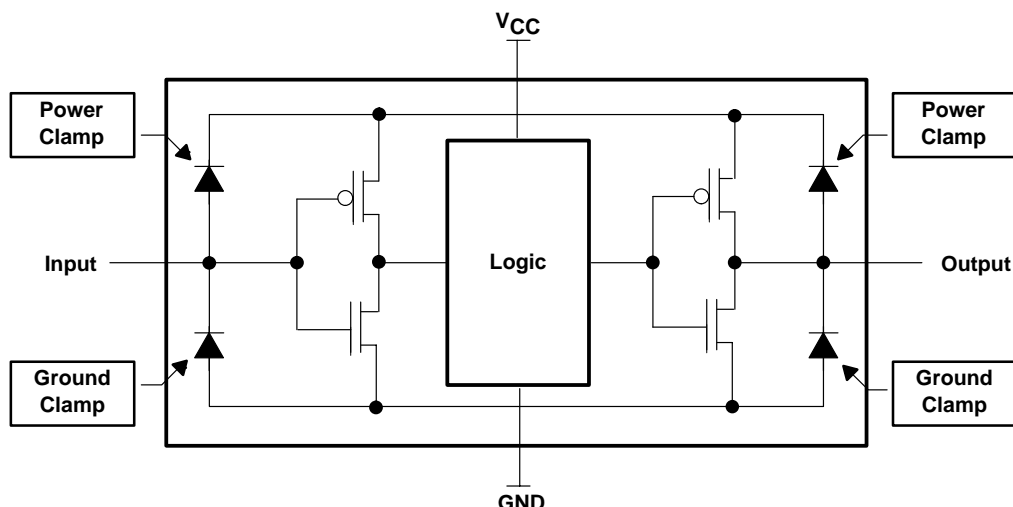

Figure 20. Representation of Typical Logic I/O Clamping Circuits
If there are clamp diodes between the device inputs and the V_{CC} supply (see Figure 20) for ESD protection or overshoot clamping, the positive absolute-maximum rating for the input voltage is specified as $V_{CC} + 0.5$ V. Keeping the applied input voltage less than 0.5 V above V_{CC} ensures that there will not be enough voltage across the clamp diode to forward-bias it and cause current to flow through it. The TI logic families with clamp diodes in the inputs are: AC, ACT, AHC, AHCT, ALB, ALS, ALVC, AS, F, (CD)FCT, HC, HCT, HSTL, LS, PCA, PCF, S, SSTL, and TTL.
If there are clamp diodes between the device outputs and the V_{CC} supply (see Figure 20) for ESD protection or parasitic current paths in the output p-channel pullup transistor, the positive absolute maximum rating for the output voltage is specified as $V_{CC} + 0.5$ V. This ensures that there will not be enough voltage applied between the output and V_{CC} to forward bias the clamp diode and cause current to flow. You may exceed the negative rating if you ensure that you are not putting too much current through the ground-clamp diode. The maximum current that you may put through the ground-clamp diode is specified in the I_{OK} absolute maximum rating.
If there are clamp diodes between the device inputs and the V_{CC} supply (see Figure 20), for ESD protection or overshoot clamping, there will be both a positive and negative absolute maximum rating for the input clamp current. If there is only a negative absolute maximum rating, that implies that there is only a ground-clamp diode at the input, not a power-clamp diode.
If there are clamp diodes between the device outputs and the V_{CC} supply (see Figure 20), for ESD protection or parasitic current paths in the output p-channel pullup transistor, there will be both a positive and a negative absolute-maximum rating for the output clamp current. If there is only a negative absolute-maximum rating, that implies that there is only a ground-clamp diode at the output, not a power-clamp diode or a parasitic current path in the output p-channel pullup transistor.